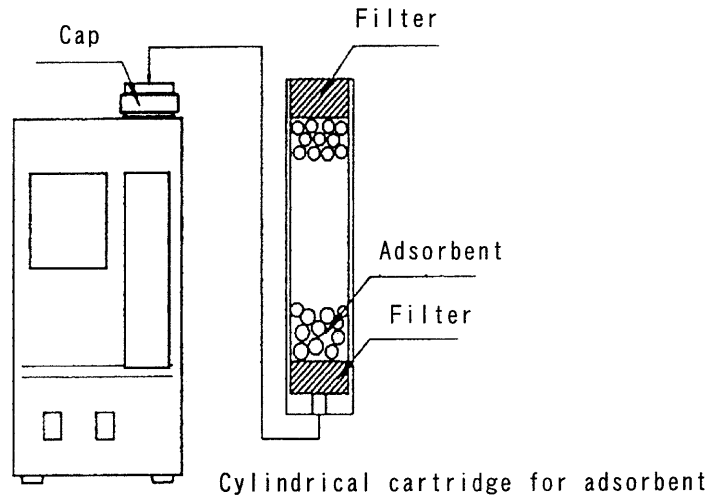

Fig.11 Replacing the cylindrical cartridge for adsorbent
- 7) Set the new upper and lower filters which come as standard accessory with the OPGU, in the supplied standard accessory cartridge or the one removed from the dryer (Fig. 11). Then fill the cartridge with round, dry gains of adsorbent (do not fill it with powdered adsorbent).